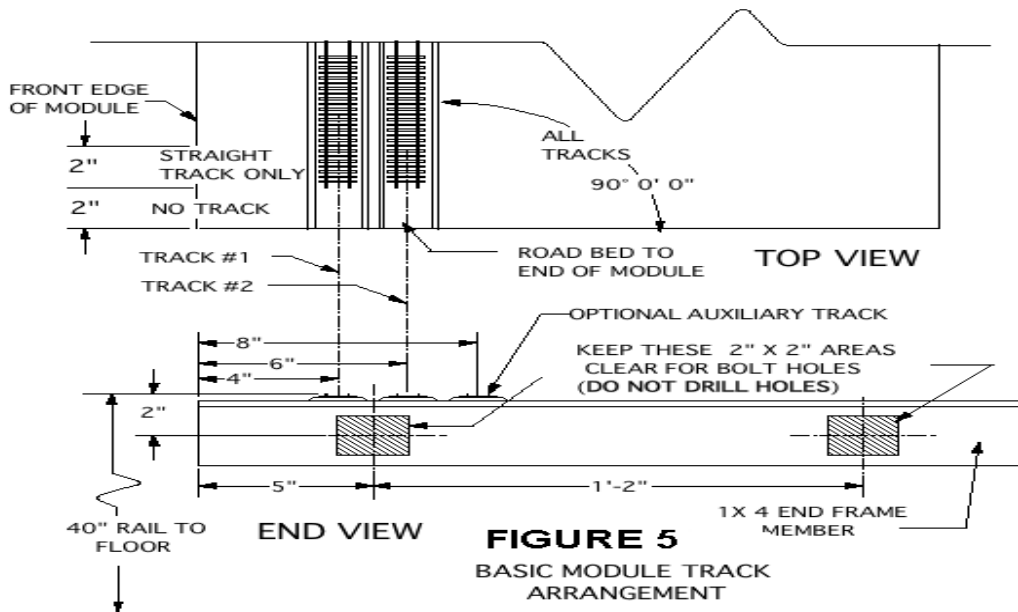

FIGURE 5
1. Bolt holes are to be located by a club-supplied fixture and drilled by a Standards Committee member. See Figure 5 for approximate locations. The area in which the holes will be drilled must provide clearance for a 5/16 NC tee nut and fender washer.
II. Main Line Track - Each module must have, as a minimum, two mainline tracks constructed according to these standards that will be powered and controlled by the club power supplies at all shows. The requirements for locating the main line tracks are illustrated in figures 5 and 6. All other tracks are known as Optional Auxiliary Tracks (OAT). The standards for main line track also apply to the OAT except as specified in section III.
B. Location of Centerline (Figure 5)